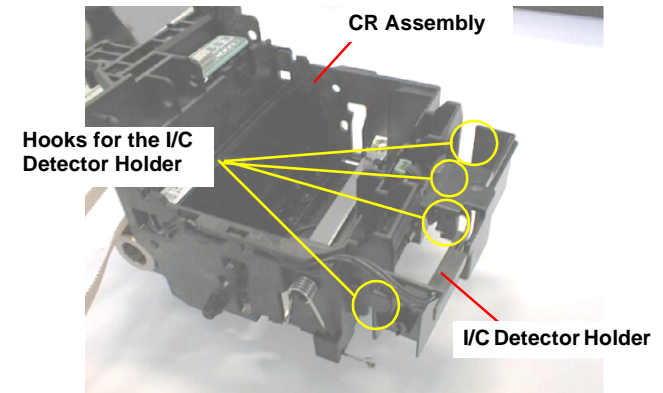

Figure 4-51. Removing the I/C Detector Holder
- 3) Remove the I/C Detector Holder by releasing the four hooks. Refer to Figure 4-51.